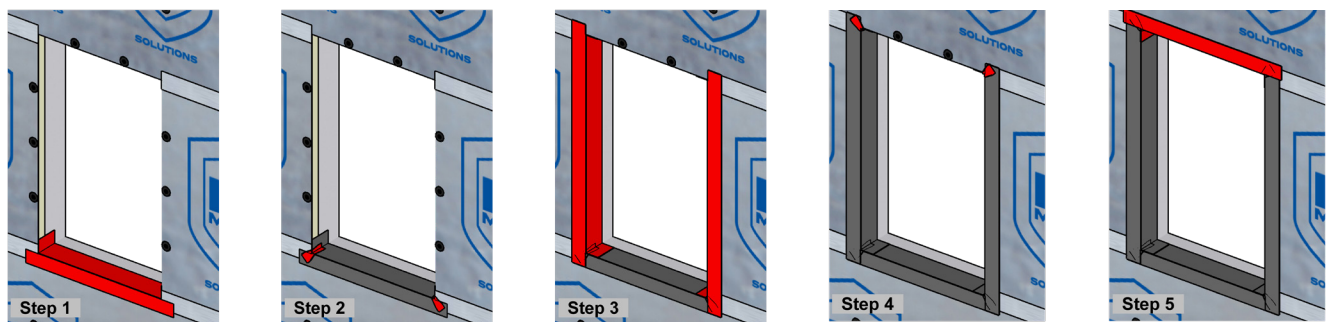
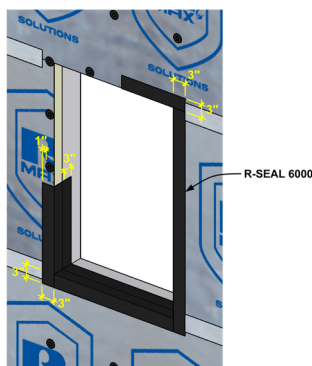

Figure 8
Figure 9
J. Rough Openings: Apply sill flashing first, then bottom corner patches. Next, apply flashing at the jambs, then upper corner patches. Finally, apply head flashing. **Reference Figure 8.** For each plane to be flashed, extend flashing a minimum of 3" onto the surface of the last substrate and a minimum of 1" beyond any washer. **Reference Figure 9.** Corner patches are critical to ensure no gapping in the corners at flashing transitions. They are typically pre-cut pieces of R-SEAL 6000 in the shape of a circle, bowtie or bootstrap. **Reference Figures 10.** Alternatively, use pre-formed rigid end dams.